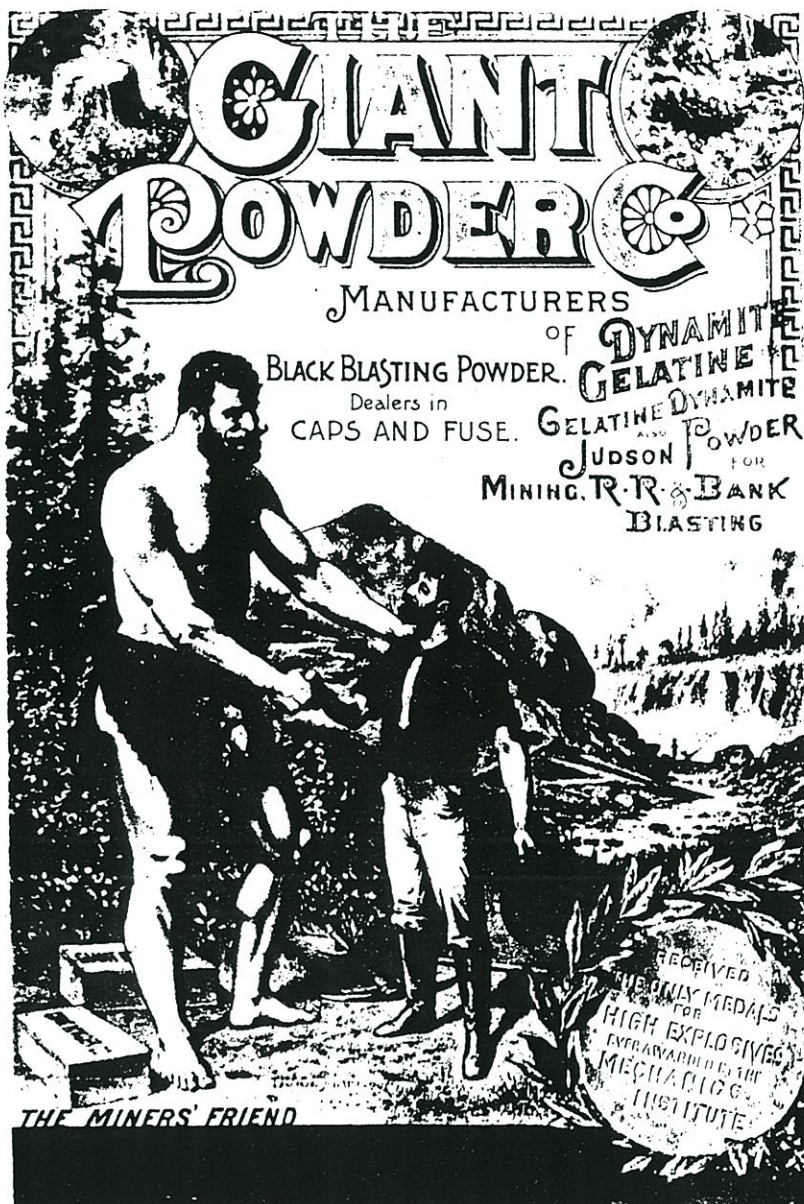

Figure 1. Reprinted poster (8" x 11.25") by the Atlas Chemical Industries, Inc.
- Simmons Pioneer II: (See MAC #14, p. 24, Figs. 1 & 2)